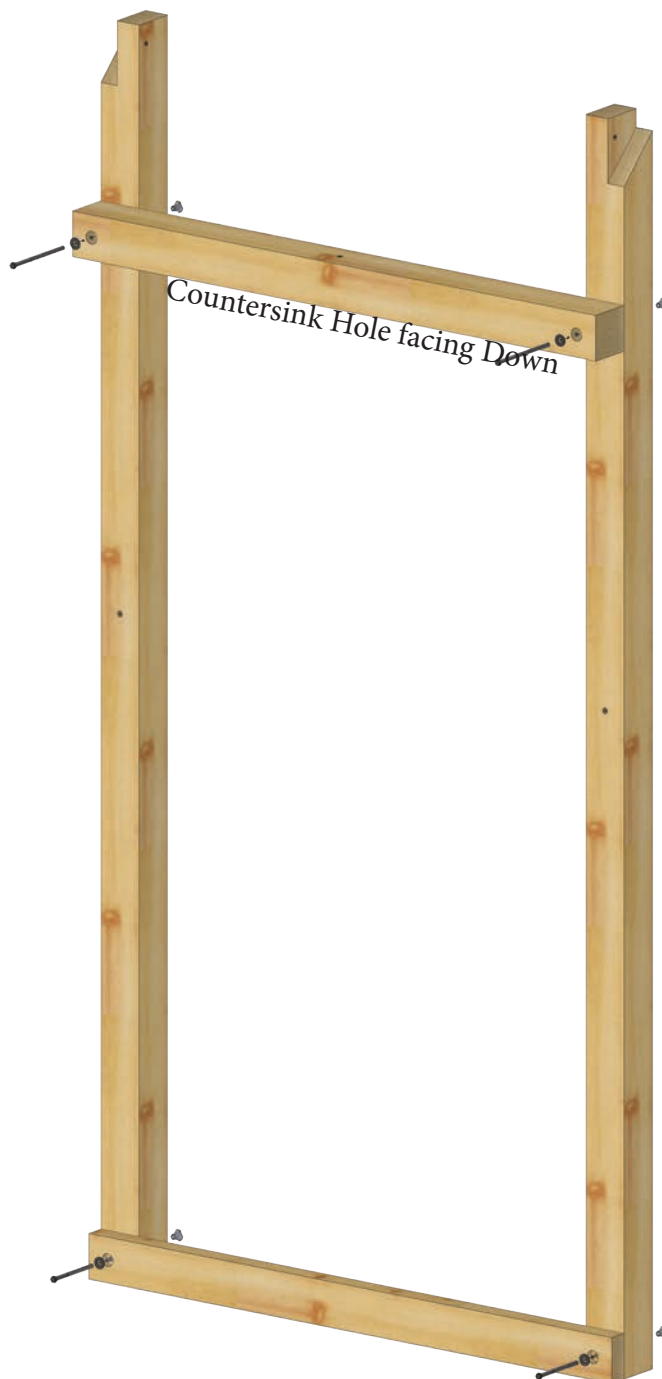

Figure 2.0
2.1 With a hammer, insert T-Nuts into Corner Post - L and Corner Post - R as shown in Figure 2.0. **Note direction of the Lap Joints at the top of the posts.**